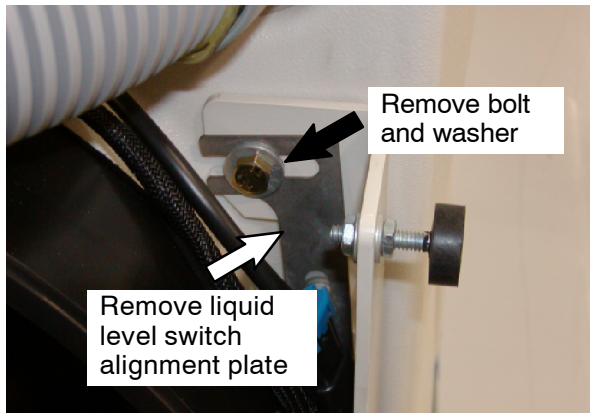

FIG. 1
7. Remove the bolt and washer holding the liquid level switch alignment plate onto the machine. **Do not** discard any items removed in this step. Refer to Fig. 1.
8. Remove the liquid level switch alignment plate from the float switch. **Do not** discard the liquid level switch alignment plate. Refer to Fig. 1.